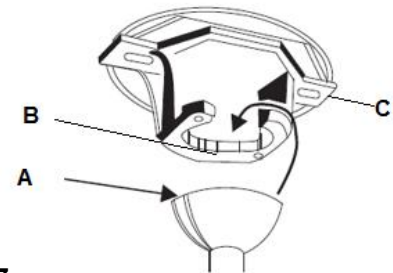

Fig. 7
Lift the fan assembly onto the mounting bracket. Ensure the key slot (A) of the hanger ball is positioned on the key pin (B) of the mounting bracket (C) to prevent the fan from rotating when in operation. **Fig.7**